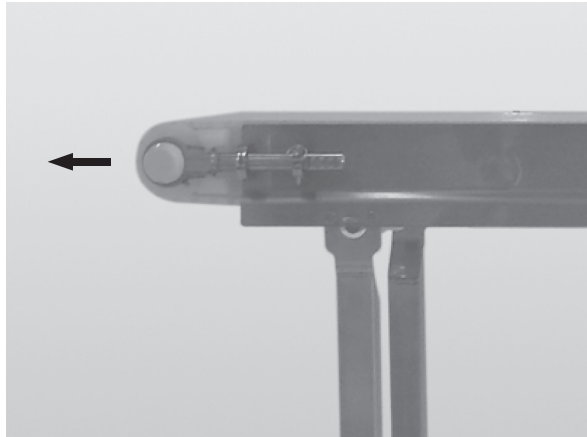

Figure 59
3. Continue extending the tension end until the belt is sufficiently tight (**Figure 59**).